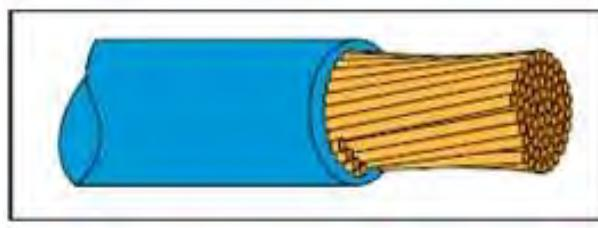

Figure 99
- (3) Inspect wire strands as follows:
- a. Broken, nicked, or cut strands as listed below and shown in Figure 99.